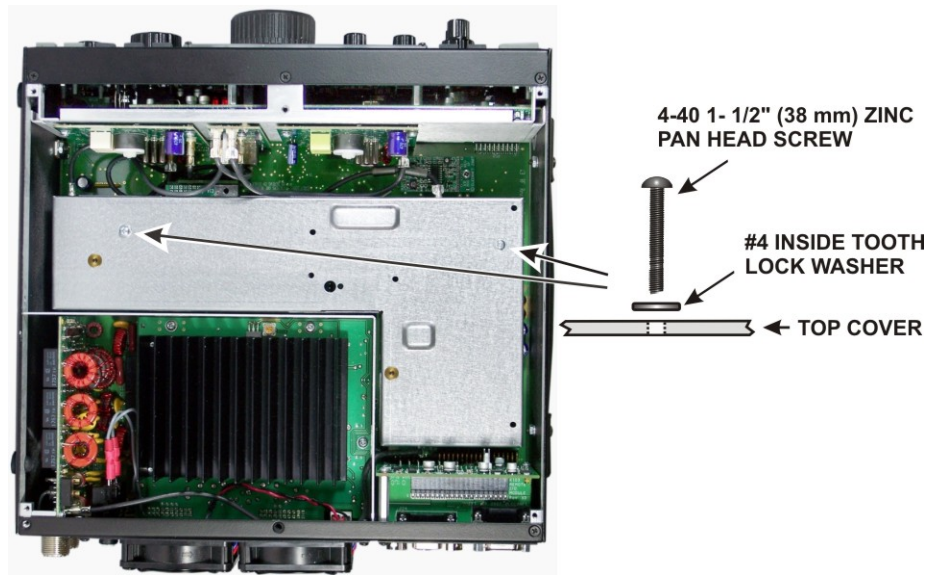

Figure 2. Removing the KRX3 or KRX3A Module.
If your K3S or K3 is equipped with the optional sub receiver, you must remove the sub receiver module to install the KAT3A. The sub receiver module is the “L” shaped metal enclosure (see Figure 2). Remove the sub receiver module as follows:
- ☐ Remove the two 1-1/2" (38 mm) screws and lock washers shown in Figure 2. These screws extend all the way through the sub receiver module and secure it to standoffs mounted on the main RF board .